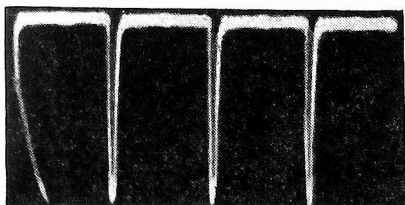

Fig. 9. (B) The sync waveform in a television receiver.
At (B) in Fig. 9, is illustrated an example of a signal containing only sync